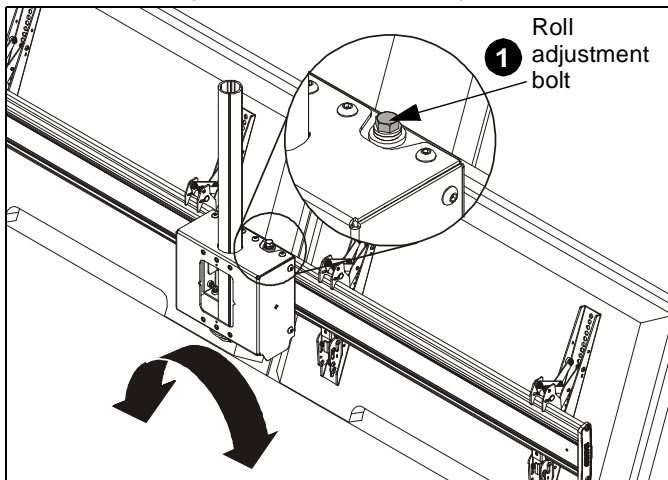

Figure 12
- Turn the roll adjustment bolt in the direction necessary for the desired roll. (See Figure 12)